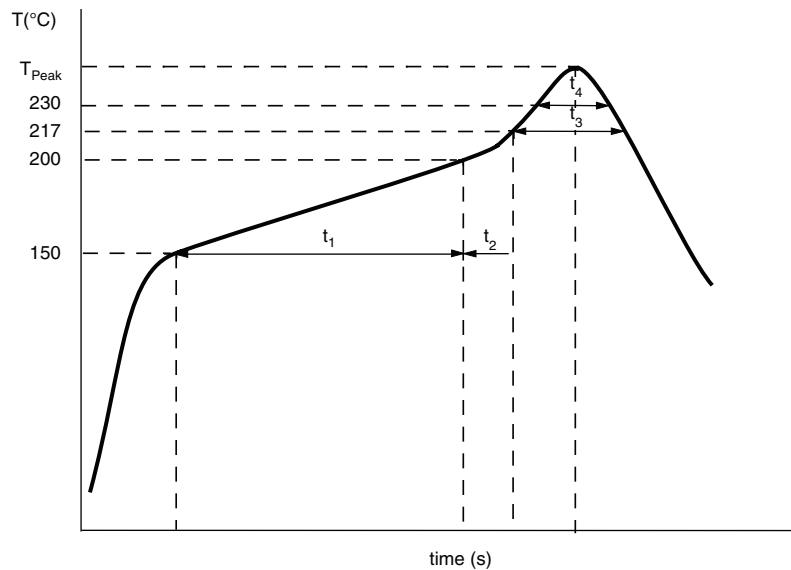

Fig.4 Maximum temperature load during reflow soldering measured on capacitors soldering pad and top of the case
- ATTENTION: for maximum safe soldering conditions refer to Fig.4
For maximum conditions refer to Fig.4.